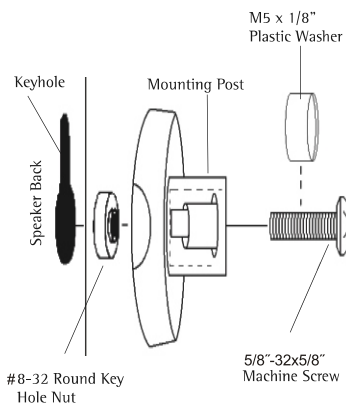

Figure 4
- Loosely pre-assemble the mounting post with the 5/8"-32x5/8" machine screw and key hole nut (Figure 4).
- Put tension on the assembly by gently pulling back on the speaker mount post while tightening the 5/8"-32x5/8" machine screw (Figure 4).
- If the post does not tighten securely against the housing, it will be necessary to use the M5 x 1/8" plastic washer as a spacer under the head of the 8-32 x 5/8" machine screw (Figure 4).